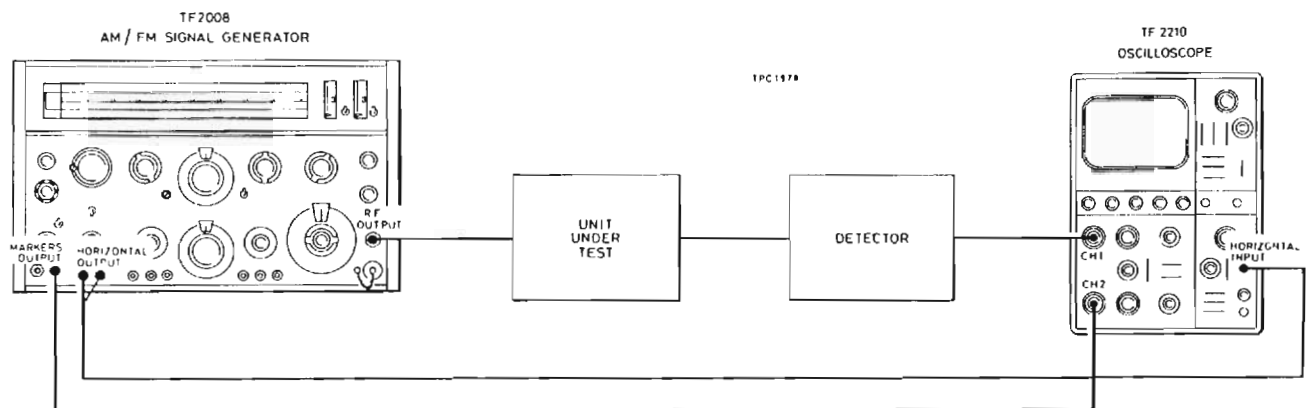

Fig. 2.3 Arrangement for wide sweep
- (1) Connect the equipment as in Fig. 2.3. Set the MODE switch to WIDE SWEEP and select the frequency range of interest with the CARRIER RANGE switch. NOTE. There will be no indication on the CARRIER LEVEL ERROR meter.
- (2) Set the oscilloscope so that the horizontal amplifier is available without the time base running; if TF 2210 is in use, set trigger source switches to external, select x10 mag. and advance the intensity control. If a single trace oscilloscope has to be used, combine the output from the detector and the markers at a T-connector with the output to the oscilloscope vertical input.